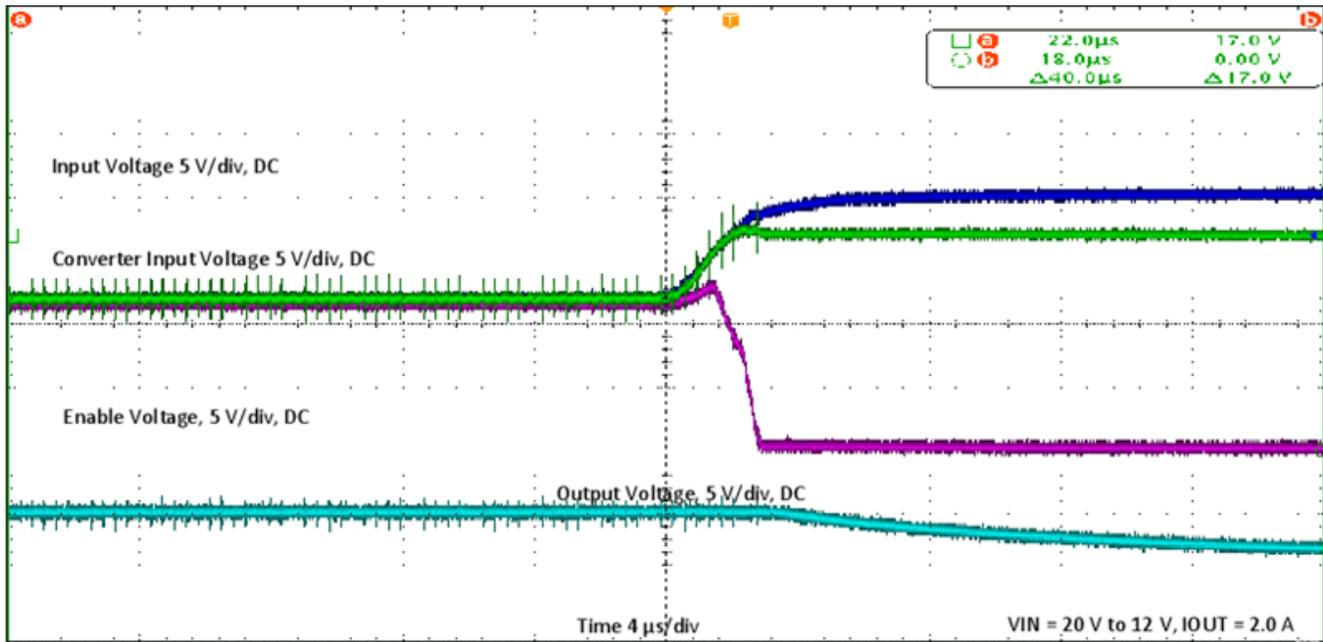

Figure 3. The PMP9757 Clamps an Overvoltage to Protect the IC
Various electronic devices require protection against an input overvoltage. Sometimes this is the user's fault (when the wrong voltage adapter is connected) but other times, it is the normal operation of the system (the extreme voltage excursions on an automobile's battery, for example). This reference design demonstrates a simple overvoltage protection circuit that protects the downstream supply line from a voltage excursion on the system's input terminals. Figure 3 shows the circuit in action – clamping the integrated circuit's (IC) supply voltage (shown in green) when the system's input voltage (shown in dark blue) goes outside the safe operating area.